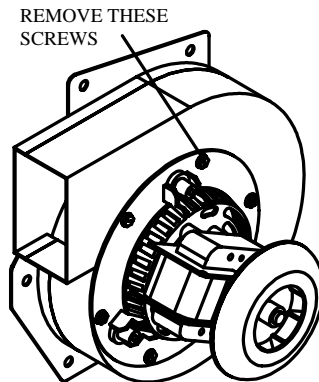

Figure 20. Exhaust fan assembly.
3. Clean the exhaust fan and housing. Ash accumulation on the fan blades will reduce the life of your exhaust fan. Frequent cleaning will help extend the life of this component. Open the left side panel to access the exhaust fan. Using a Common (flat head) screw driver, remove the 6 sheet metal screws holding the fan motor to the housing (See Figure 20). Using a brush, clean all ash from the exhaust fan blades and housing.